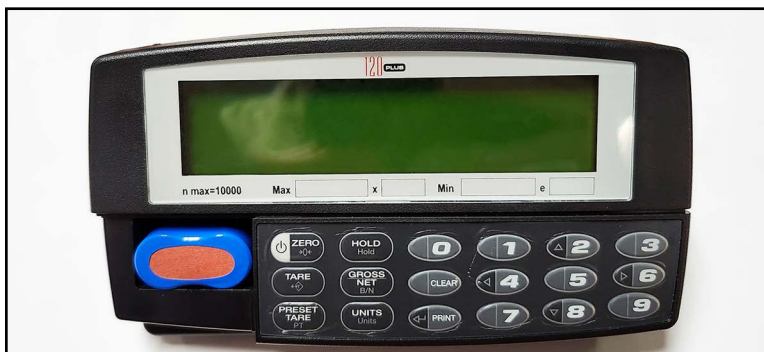

Figure 2-14. Insert Battery
4. Insert the rechargeable battery into the housing (see Figure 2-14).